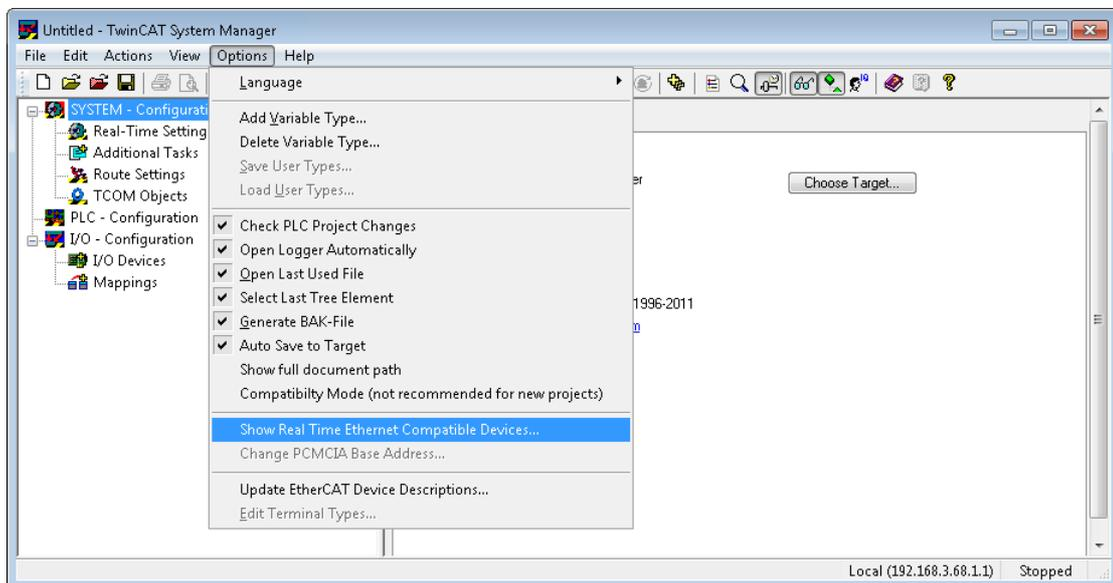

Fig. 6-17 Setting up the interface adapter.
1. Select **Options > List of real-time Ethernet-compatible devices** (Fig. 6-17).